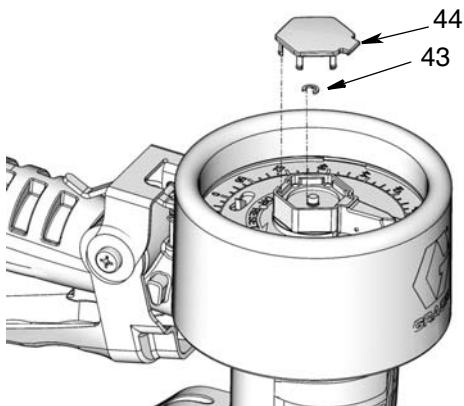

FIG. 26
2. Remove the cover (44), small retaining ring (43), (FIG. 26).